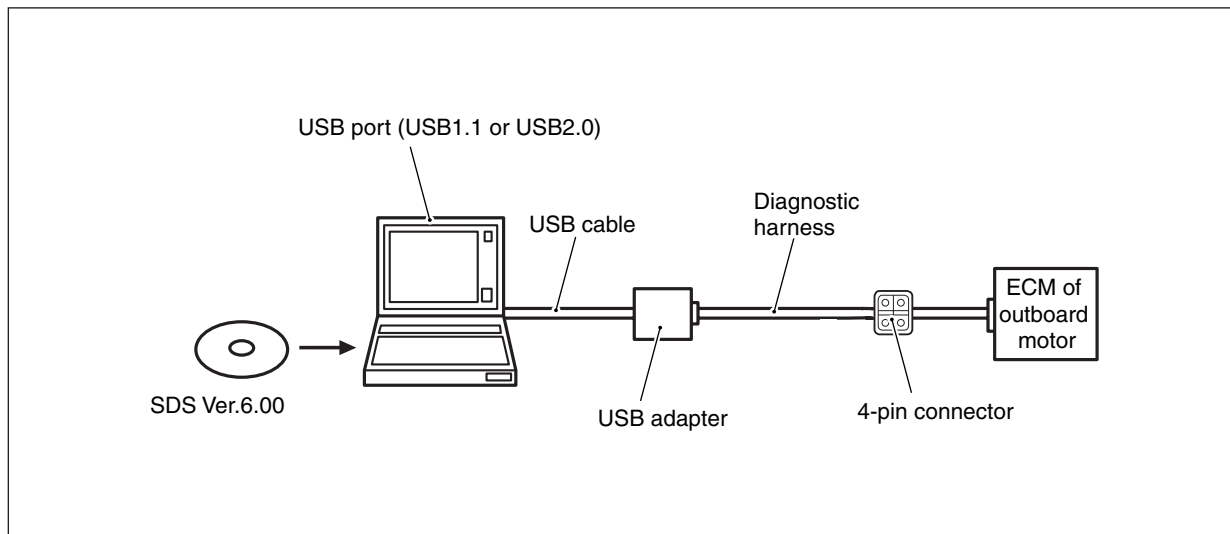

Fig.39
1. Connect the diagnostic harness and USB cable (with a USB adapter) to the USB port of your PC and communication connector (4-pin connector). (Fig.39)